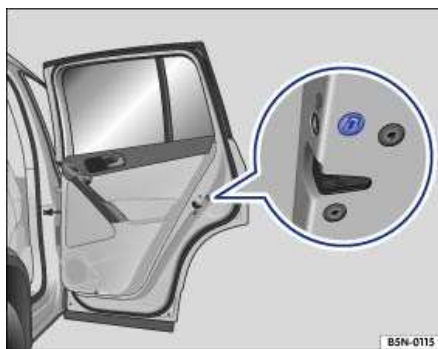

Fig. 35 Emergency lock (covered by weatherstrip) in the edge of the left rear door.
- Pull back the weatherstrip on the edge of the door that is identified by a lock  ⇒ Fig. 35.